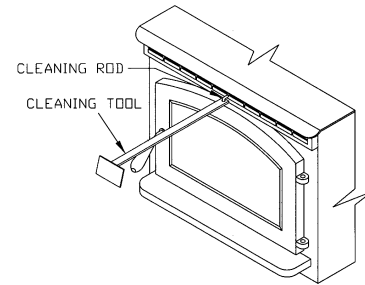

FIGURE 24
- With the door closed clean heat exchanger tubes. (See “**CLEANING**” and Figure 24).
- Heat Exchange Tubes** – Your Breckwell stove is designed with a built-in heat exchange tube cleaner. This should be used every two or three days to remove accumulated ash on the tubes, which reduces heat transfer on the P23. Insert the handle end (with hole) of the cleaning tool onto the cleaning rod (refer to figure 24). The cleaner rod is located in the grill above the stove door. Move the cleaner rod back and forth several times to clean the heat exchanger tubes. Be sure to leave tube cleaner at the rear of the stove.